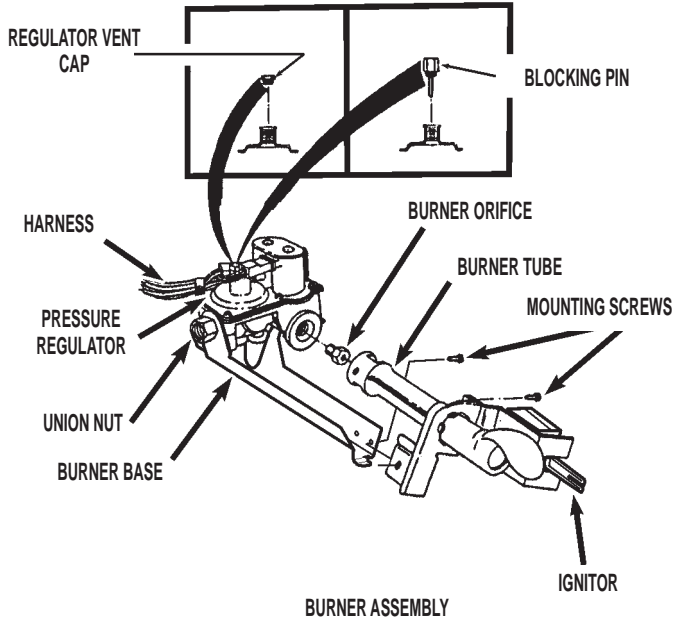

FIGURE 2
- Remove the burner orifice from the valve and replace it with the proper orifice furnished in this kit. Orifice number is stamped on one edge of the hex head of orifice. Securely tighten. See *Figure 2*.
- Put the burner tube back on the burner assembly. Securely tighten the two (2) mounting screws. Reconnect the ignitor to the harness. See *Figure 2*.
- Remove the regulator vent cap (leak limiting device) from the pressure regulator. See *Figure 2*.
- Install the new blocking pin finger-tight. Do not tighten more than 1/8 turn to seal it. See *Figure 2*.
- Check that the regulator vent cap has been replaced by the blocking pin as in *Figure 2*.